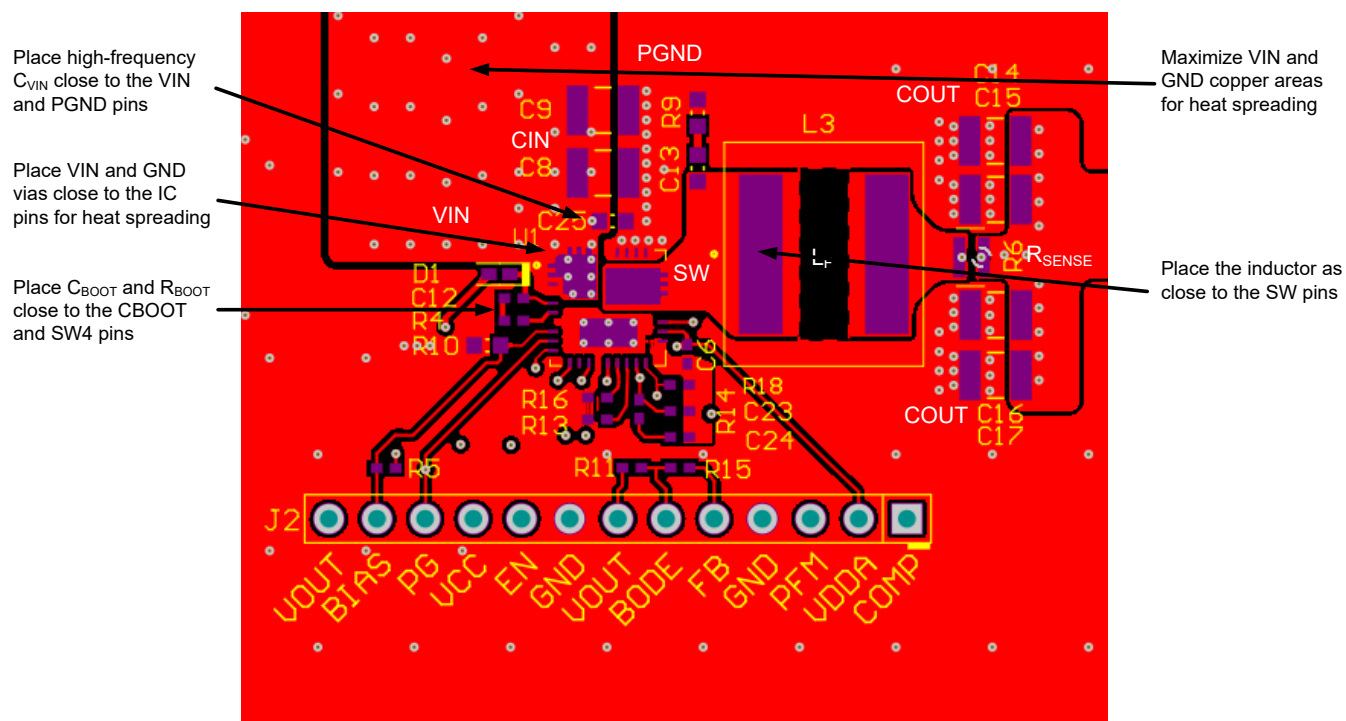

図 7-33. PCB Top Layer – High Density, Single-sided Design
The following list summarizes the essential guidelines for PCB layout and component placement to optimize DC/DC converter performance, including thermals and EMI signature. Figure 7-33 shows a recommended layout of the LM704A0-Q1 with optimized placement and routing of the power-stage and small-signal components.
- Use low-ESR ceramic capacitors with X7R or X7S dielectric from VIN to PGND. Place an 0402 capacitor close to VIN for high-frequency bypass as shown in Figure 7-33. Use additional 1206 or 1210 capacitors for bulk capacitance.